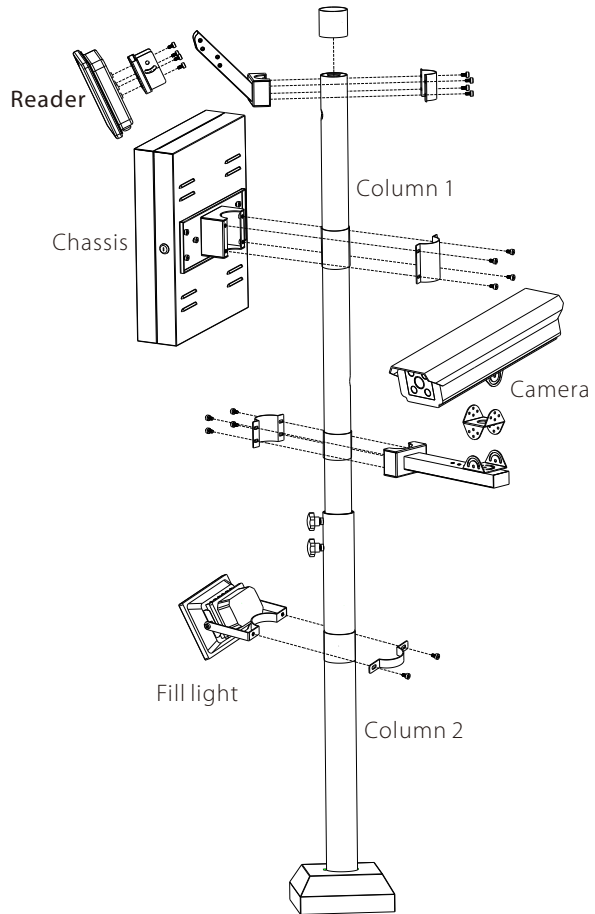

Figure 2
Step 5: Place the sponge mats on column 1, then lock the chassis holder and chassis support with a collet and M6 screws as shown in figure 2.